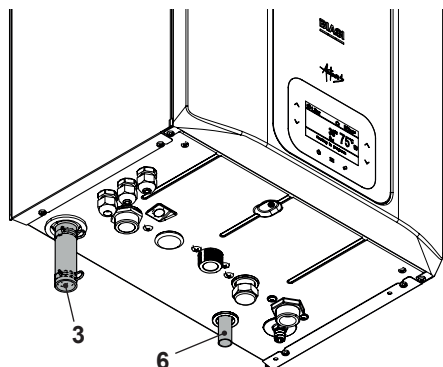

Fig. 6.4
- Connect the pipe 6 (Fig. 6.4) from the pressure relief valve to the safety discharge pipework.
- Fit the condensate drain 3 (Fig. 6.4) in to the drainage pipework.